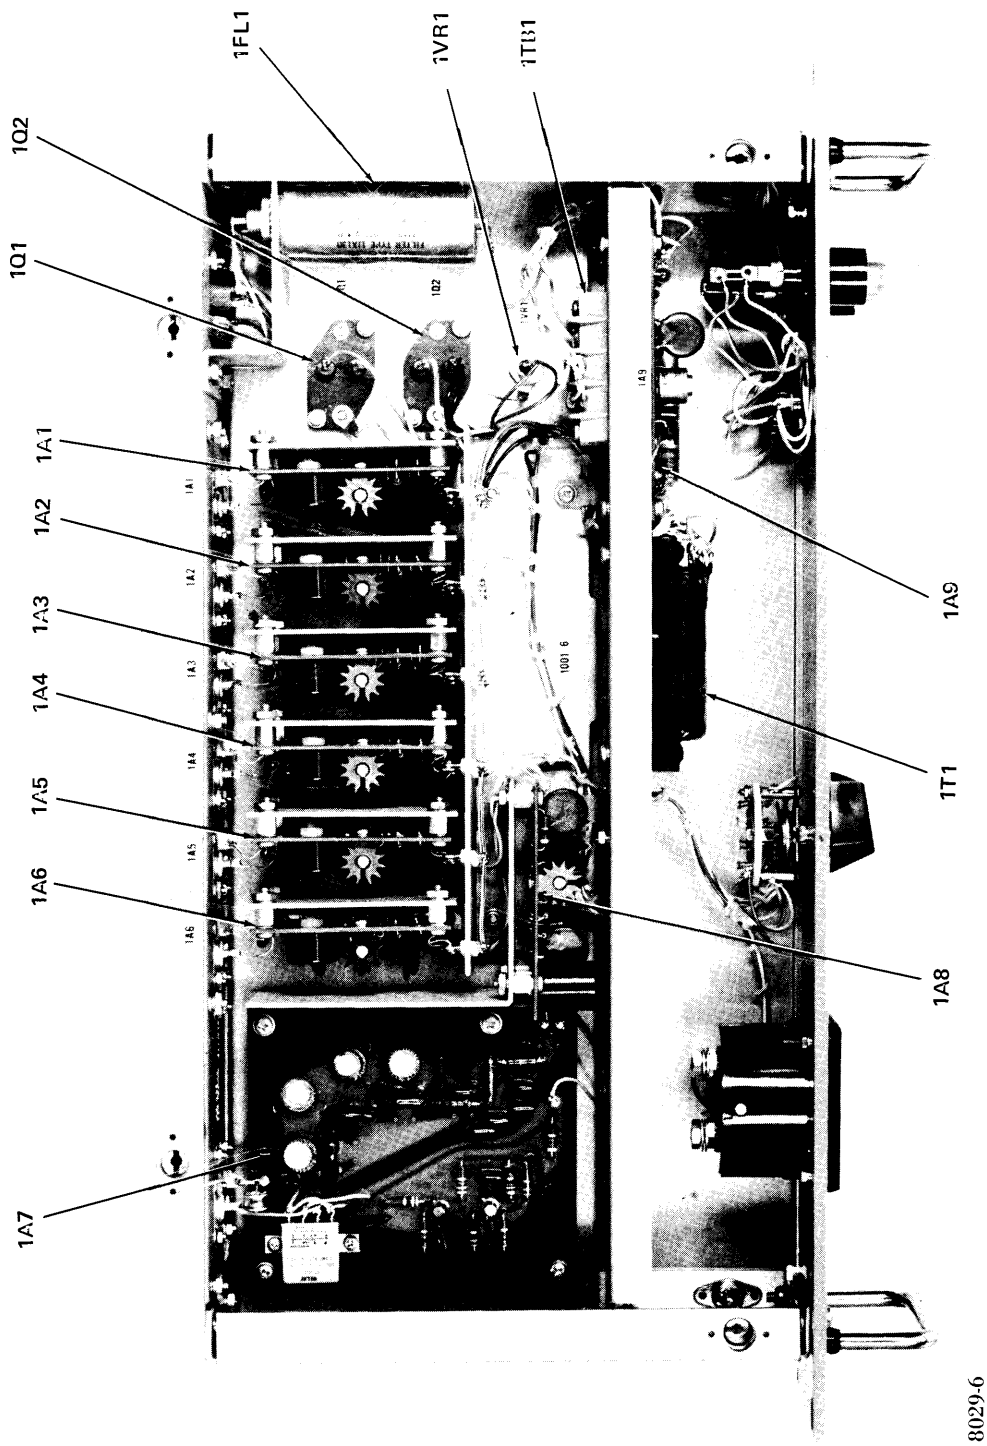

Figure 5-1. Major Component Location Diagram, Top View, AMC-102
a. REFERENCE AIDS - Reference data included in this manual as an aid in troubleshooting include wiring schematic diagrams (in Section 7), principles of operation (Section 4), component location diagram (figure 5-1), a troubleshooting chart (table 5-3), a stage gain chart (table 5-6), a voltage measurement table (table 5-4), a resistance measurement chart (table 5-5) and a general sequential procedure to follow in troubleshooting the AMC-102 (paragraph 5-4b).